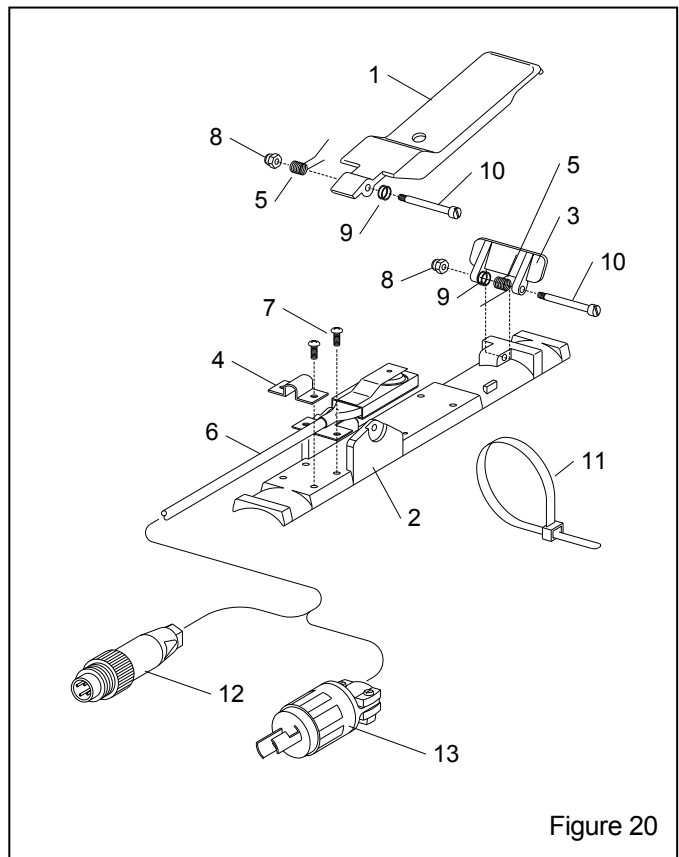

Figure 20
**6.3 Electric RLX – Figure 20**